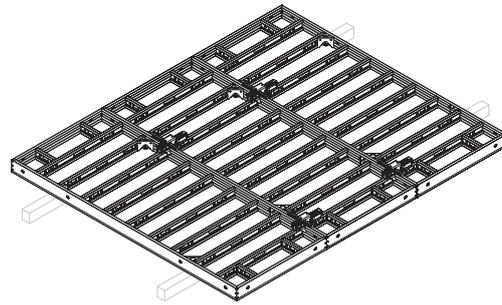

Fig. A2.01
1. Assemble horizontally. (Fig. A2.01)